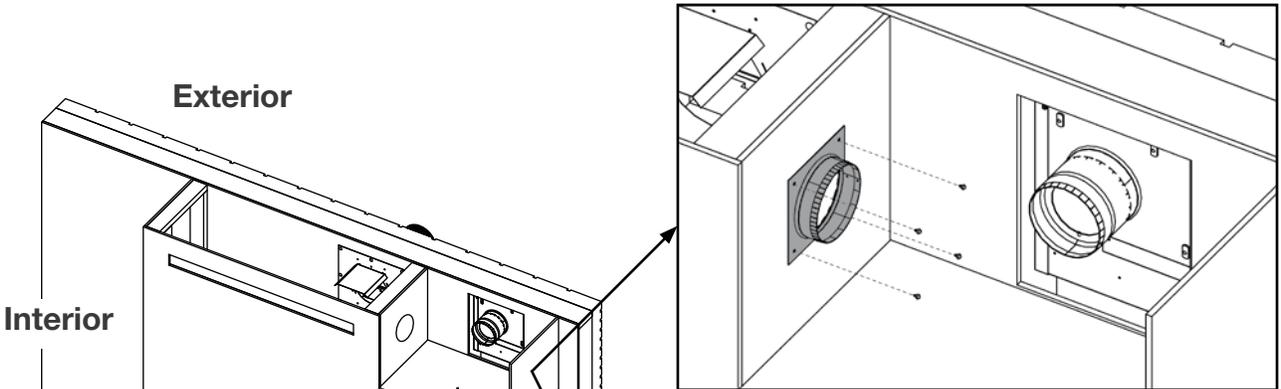

Fig. 2
2. Using appropriate fasteners (not supplied), secure the 6” (152mm) collar plate assembly over the hole inside the bulkhead (**Fig. 2**).